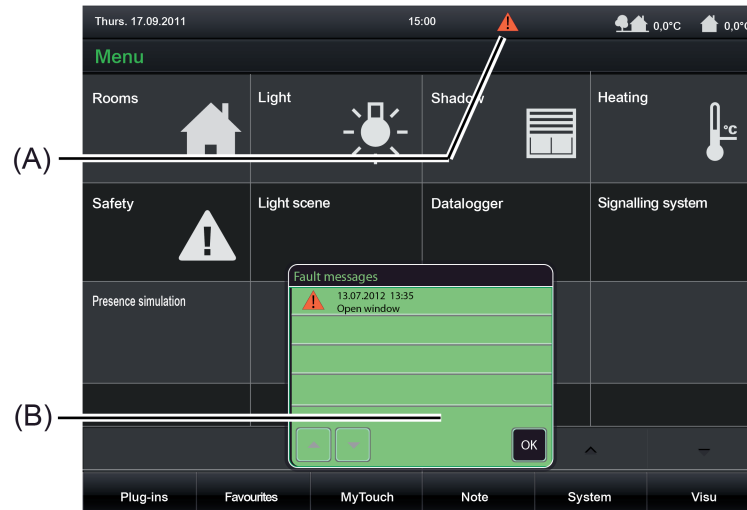

Figure 49: Global display of active fault messages
As soon as a fault message is active, a warning symbol (A) appears in the header of the display screen (Figure 49). After pressing the symbol, a dialog window (B) will become visible. This dialog window contains an overview of all active fault messages in list form. Furthermore, some of the last (inactive) fault messages are also listed in the list. The fault message last activated is always at the top of the list.